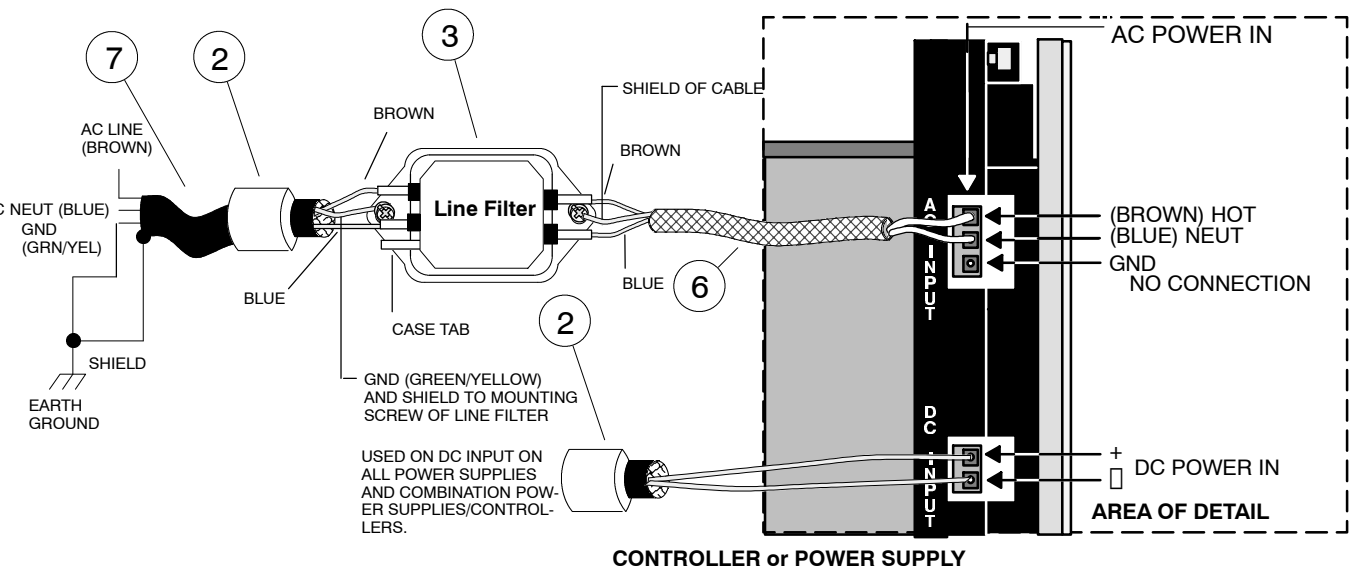

Figure 6 Detail Installation
- ☐ Use a 110/220Vac Line Filter (Schaffner part number FN670-30/6), with a Ferrite Bead (Steward part number 28 B0625-100). Install as shown in Figure 6 on power input to rack power supply.